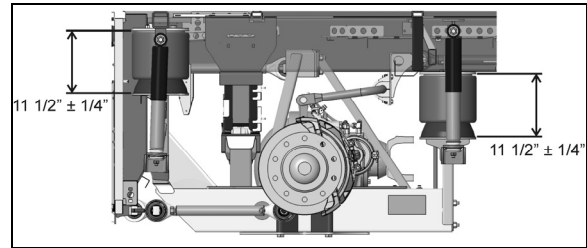

FIGURE 42: DRIVE AXLE AIR SPRING CLEARANCE 16195
Refer to figure 42 and 44 to identify the correct location where the measure has to be taken. At this point, it should not be necessary to make an adjustment under normal service conditions. However, if an adjustment is required, change the position of the overtravel lever in relation to the overtravel control body. The lever should be moved up to raise the height of vehicle and
1. With the vehicle at normal operating air pressure, check the air spring clearance as illustrated in figure 42 to 44.
The measure should be taken from under the upper air spring support on subframe to top of the lower air spring support on axle (refer to figure 42 to 44 for more details). If adjustment is required, begin with the drive axle.